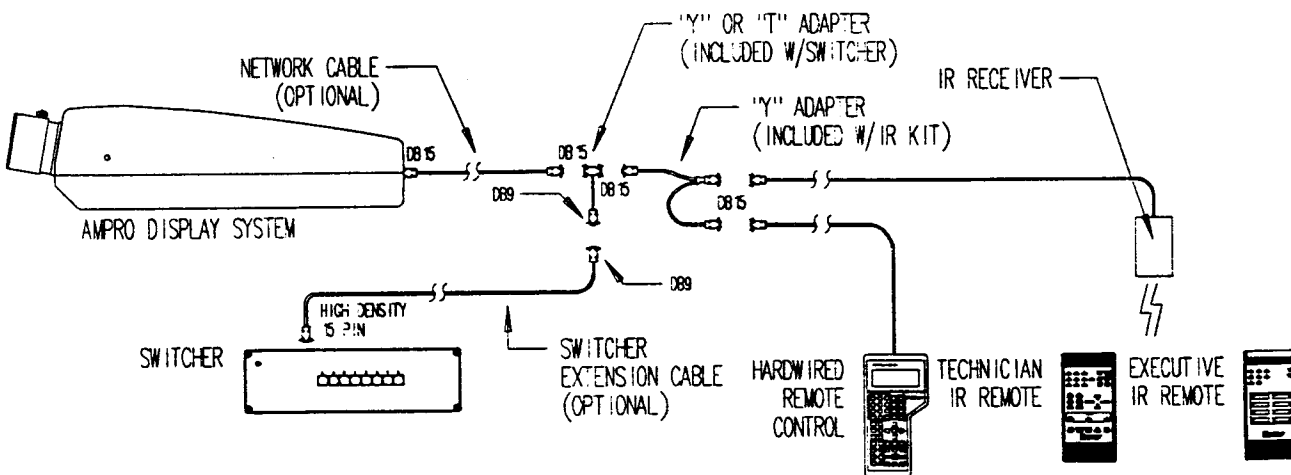

FIGURE 6-3. RS232C COMMUNICATION EXAMPLE.
* The standard hard-wired remote control and the optional IR remote control may be simultaneously connected via the "Y" adapter. See Figure 6-3.